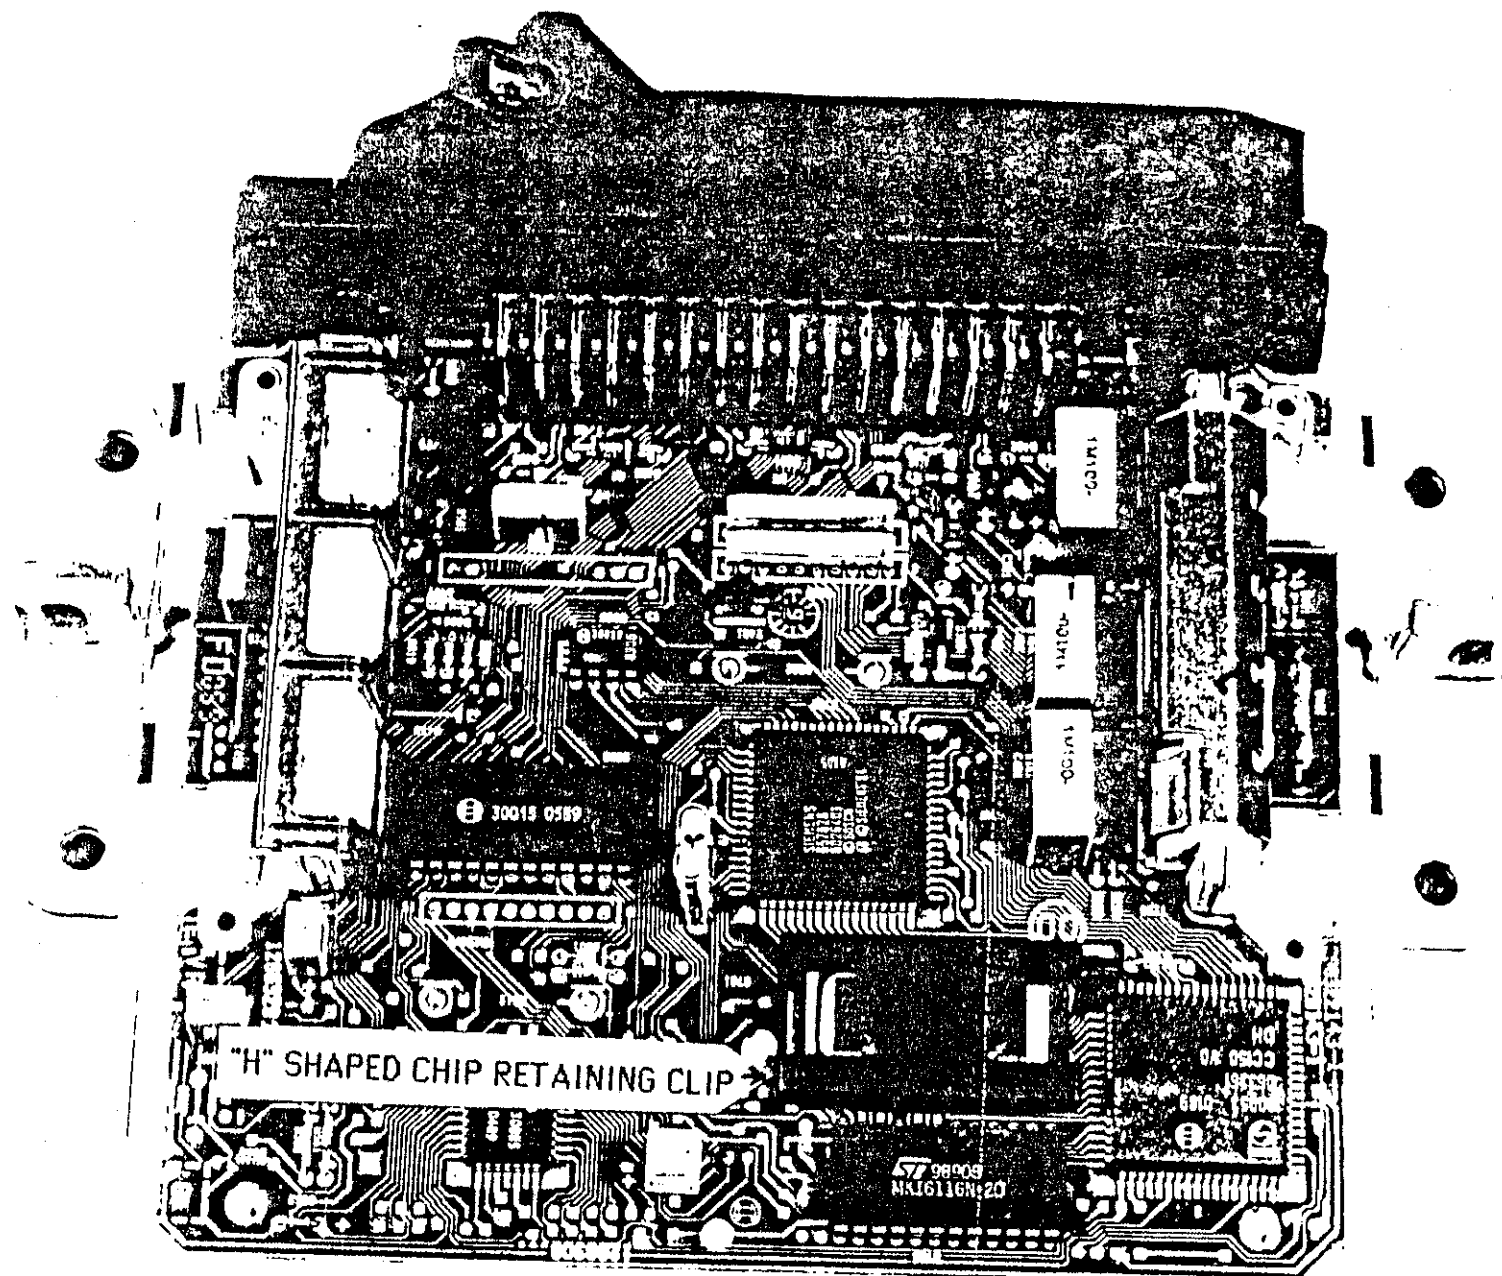

FIGURE 5
7. See figure 5. Remove the "H" shaped retaining clip by inserting the pocket screwdriver into one of the small slots in the retaining clip and prying towards the other slot. The retaining clip will pop up on the side the screwdriver is inserted in, use a finger to hold that side up while you insert the screwdriver in the other slot and release the other side. Lift retaining clip off of the chip and set aside.